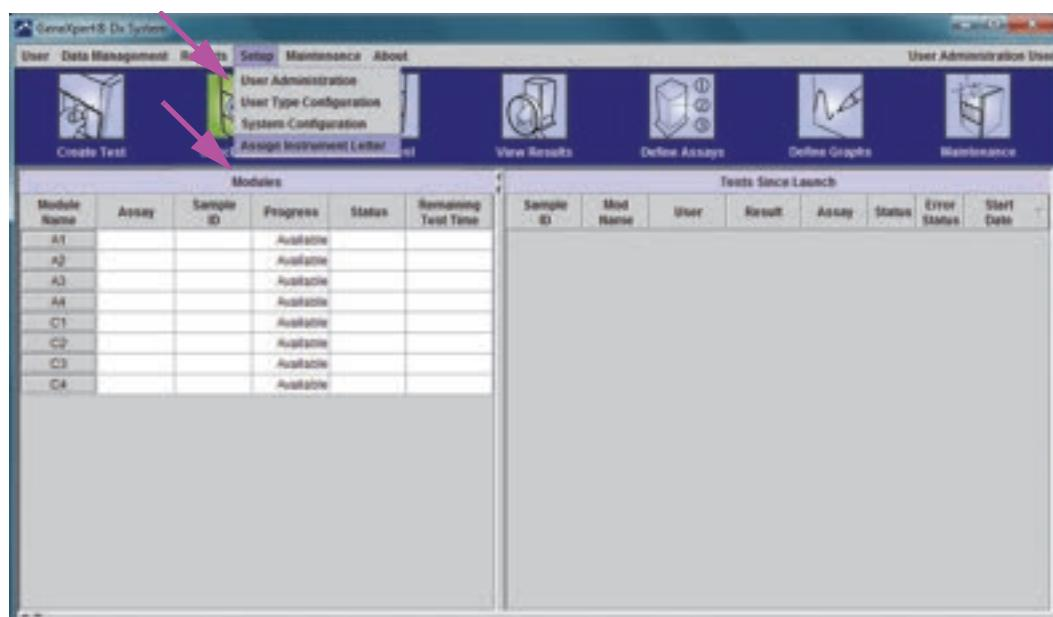
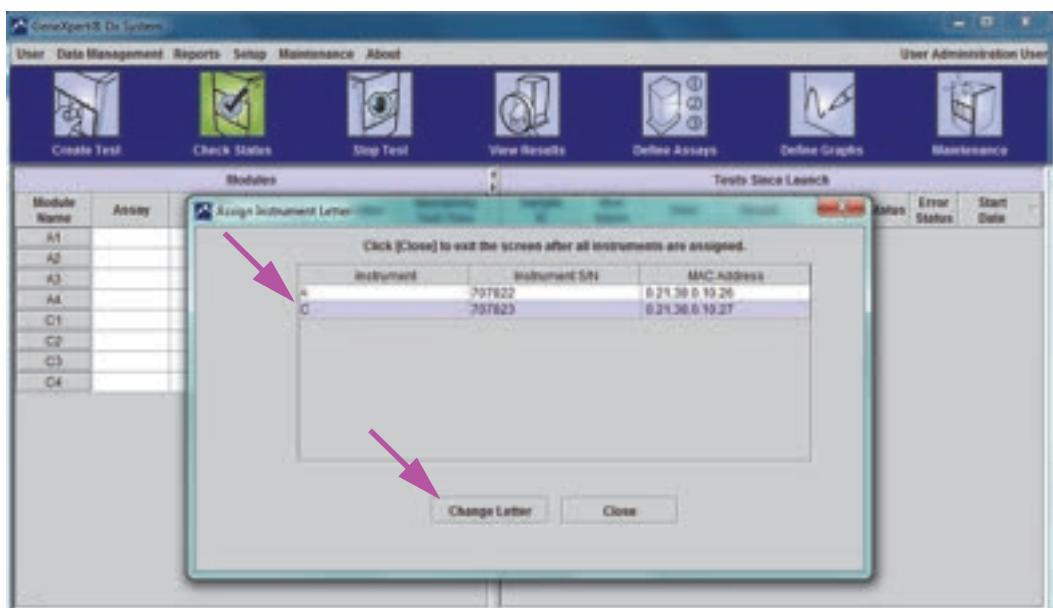
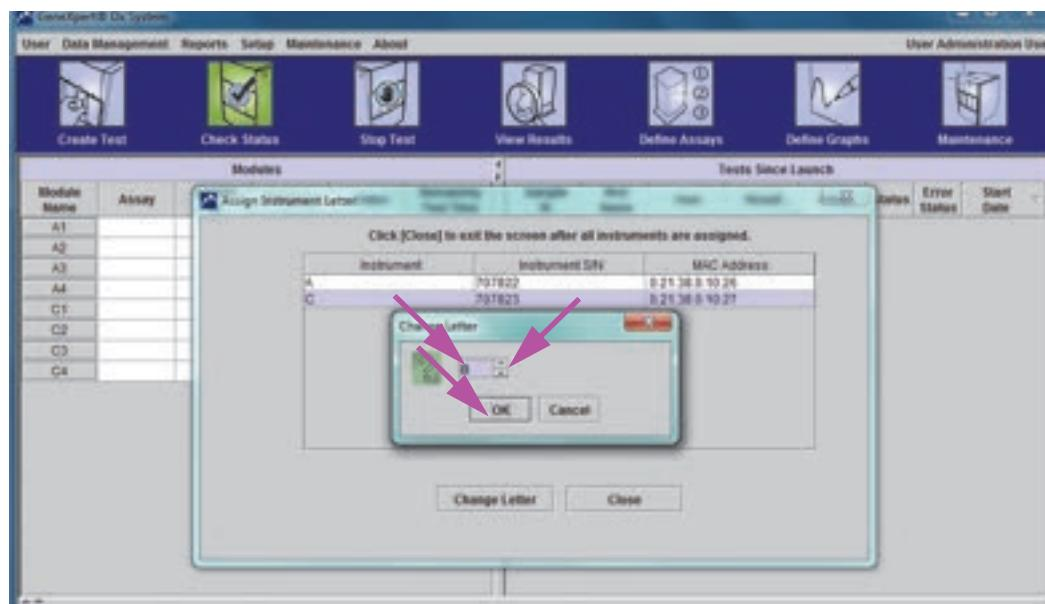

Figure 2-66. GeneXpert Dx System Window showing Setup Drop-Down Menu
Figure 2-67. GeneXpert Dx System Window with Assign Instrument Letter Dialog Box Overlay
Figure 2-68. GeneXpert Dx System Window with Change Letter Dialog Box Overlay
3. To ensure that letter assignments match the GeneXpert GX-XVI instrument, click **Setup** in the menu bar, on the GeneXpert Dx System window (see Figure 2-66), and then select **Assign Instrument Letter** from the drop-down menu. The Assign Instrument Letter dialog box is displayed (see Figure 2-67). At the same time, the green LED indicators of four modules that comprise the selected quadrant will flash.
4. To change the assignment letter, click to select the instrument to change and then click **Change Letter** in the Assign Instrument Letter dialog box (see Figure 2-67). The Change Letter dialog box appears, as shown in Figure 2-68. Select the letter to be assigned to the module(s) by using the up and down arrows of the Change Letter dialog box. Select the letter that corresponds to the quadrant defined by the four flashing modules. For example, if the lower-right set of modules (Quadrant B in Figure 2-62) is flashing, select **B** as the new letter.
5. After changing the assignment letter, click **OK**. See Figure 2-68.
6. Click **Close** to close the Assign Instrument Letter dialog box (see Figure 2-67).